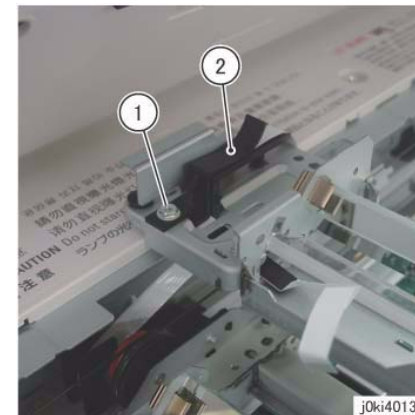

Figure 5 Remove the Guide
10. Remove the guide. (Figure 5)